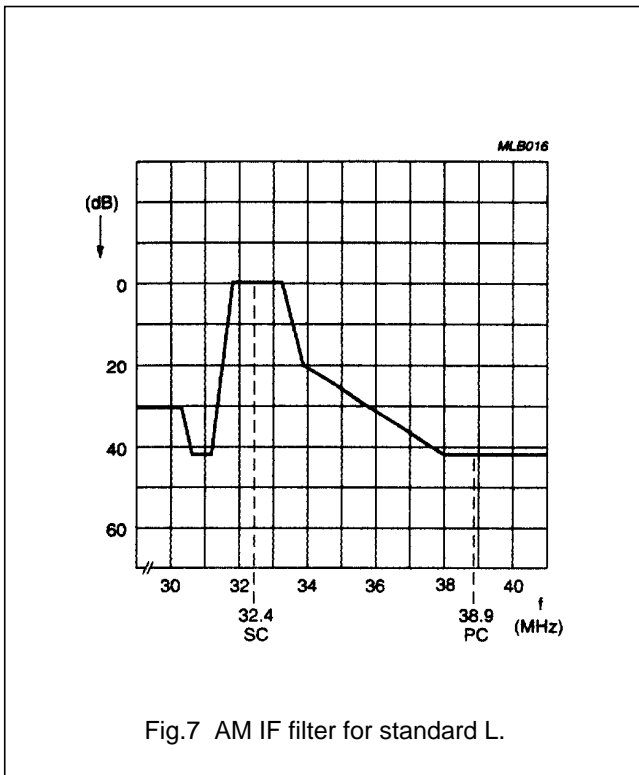

Fig.7 AM IF filter for standard L.
**IF filter proposal for AM sound (see Figs 7 and 8)**
**Note to figures 7 and 8.**